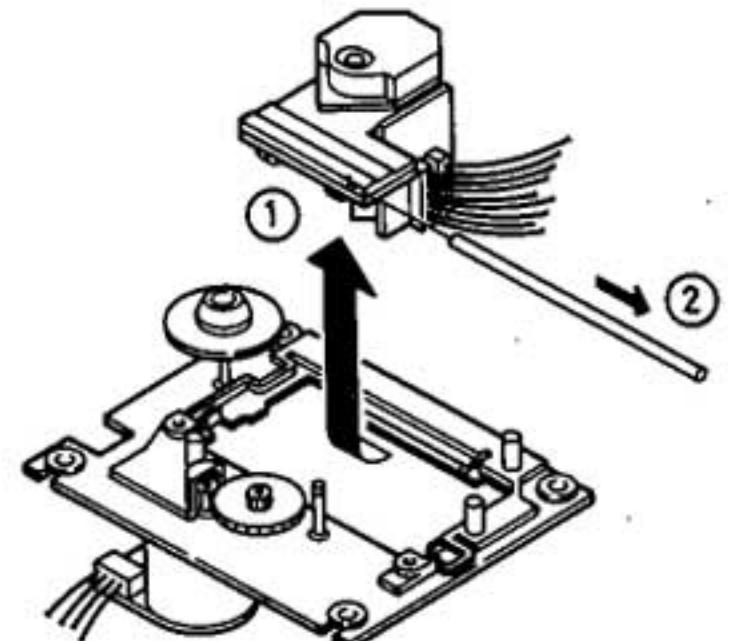

Figure 10
6. Take out the pick-up **①**. Then pull out the shaft **②**. (See Figure 10)